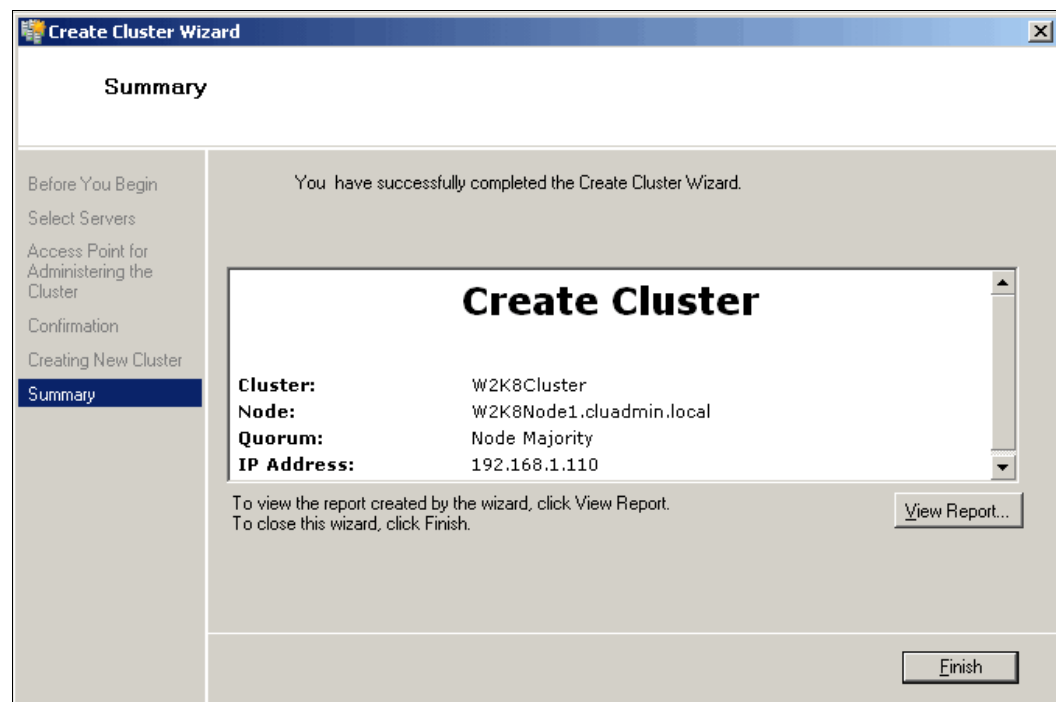

Figure 19-18 Cluster Installation Completed
3. After the wizard runs and the Summary page appears, ensure that the cluster is installed successfully as shown in Figure 19-18.